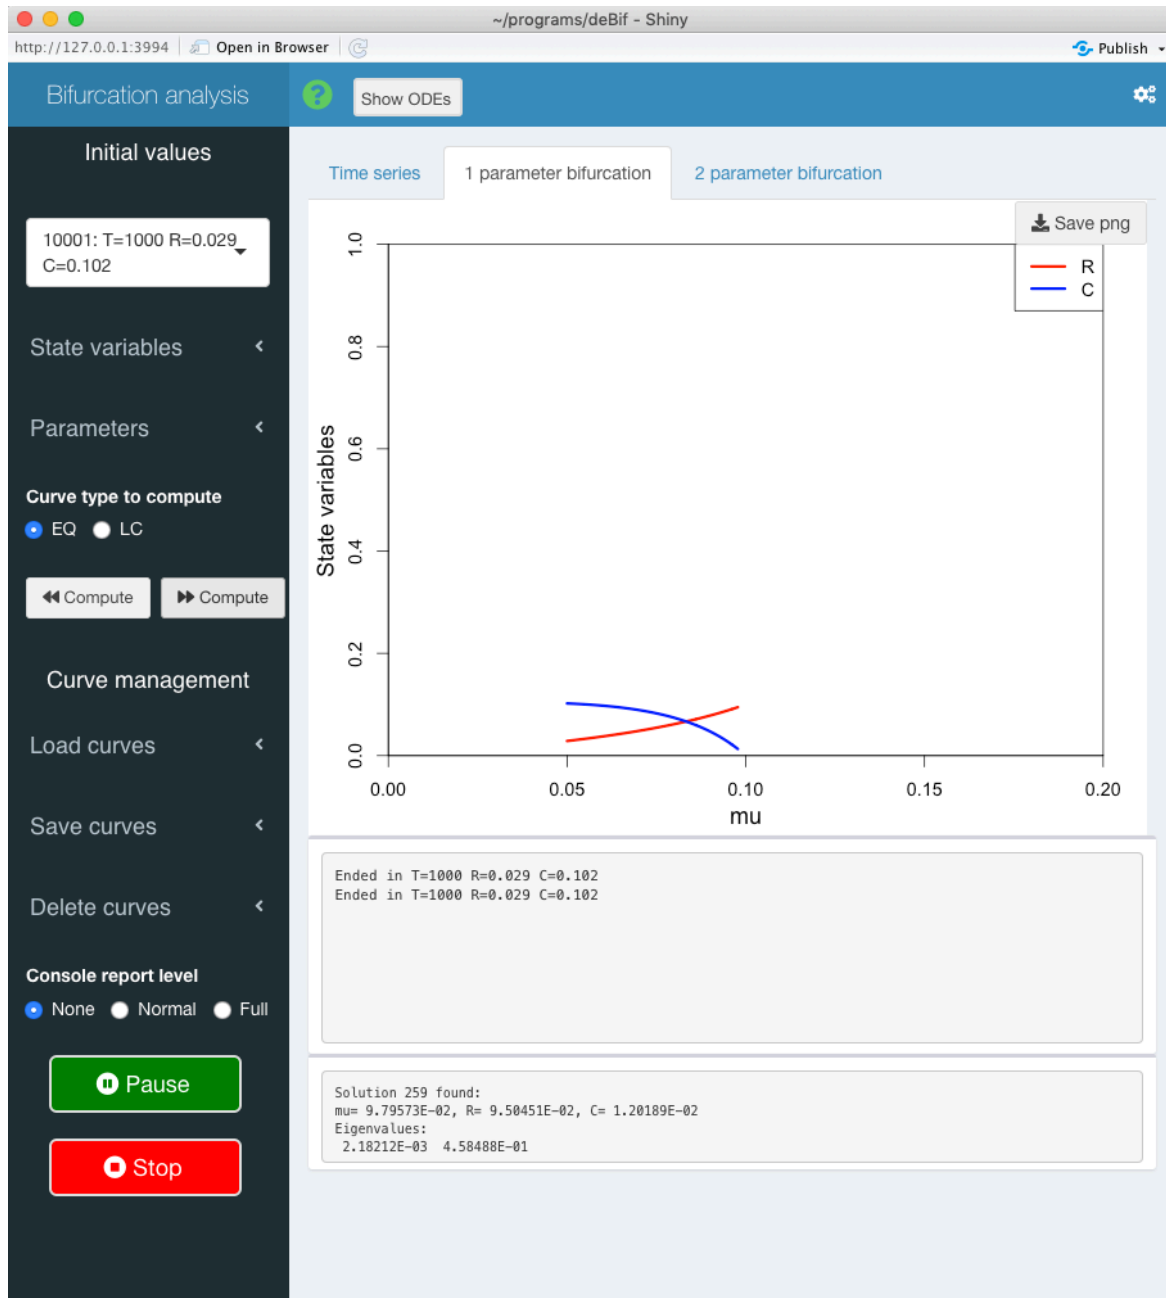

Figure 3.8: The 'bifurcation()' application while it is busy computing an equilibrium curve
higher values of the bifurcation parameter, respectively. During the computation of a curve a Pause and Stop button are displayed in the left sidebar (see Figure 3.8) with which the computation can be temporarily halted or stopped altogether. The progress window at the very bottom of the tab sheet 1 parameter bifurcation reports on the solutions that are found and, importantly, also reports on the eigenvalues that characterize the dynamics in the neighborhood of the equilibrium. Inspection of these eigenvalues allows for checking whether or not the computed steady states are stable or unstable.
Computations of equilibrium curves will halt when the maximum number of solution points along the curve has been reached or when the values of the state variables in the equilibrium point are reaching values outside the range of values currently shown on the  $x$ - and  $y$ -axis. The default number of solution points along a curve is by default equal to 500, but can be changed (see section 3.2.3). Figure 3.9 shows the completed equilibrium curve, of which the initial part was already shown in Figure 3.8. This complete equilibrium curve has been constructed by 1) first starting the continuation of this curve to lower values of the bifurcation parameter  $\mu$ ; 2) subsequently continuing this curve to higher values of the bifurcation parameter  $\mu$ ; and finally, 3) Selecting the final solution point of the latter curve (point number 501) as initial point for the next calculation and computing once again forward to higher values of the bifurcation parameter. As Figure 3.9 shows two bifurcation points are detected during these computations: a Hopf bifurcation point (HP) at a value of the bifurcation parameter around 0.03 and a transcritical bifurcation or branching point (BP) at a value of the bifurcation parameter around 0.10. Figure 3.9 also shows that the curve section to the left of the HP is plotted with a short-dashed line. This indicates that the equilibrium points on that section of the curve are unstable, that is, the eigenvalues characterizing the dynamics in the neighborhood of the equilibrium have a positive real part.